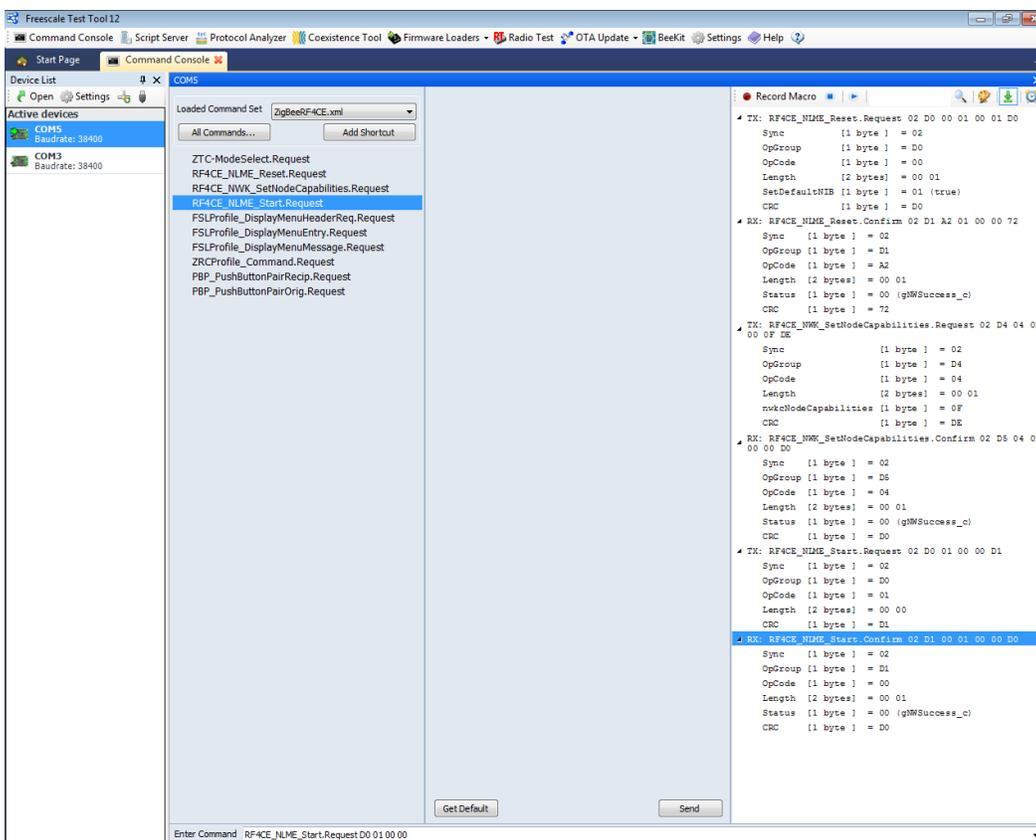

Figure 4-6. Configure and start the target node
9. Select the second device from the list of active devices. Configure and start the node to act as a target. For this, click on All Commands -> RF4CE layer command and send the following Test Tool RF4CE commands respecting the order from Figure 4-6:
- RF4CE_NLME_Start.Request command as shown in Figure 4-6.
Check if the status of the RF4CE_NLME_Start.Confirm message is successful (0x00) as shown in Figure 4-6.